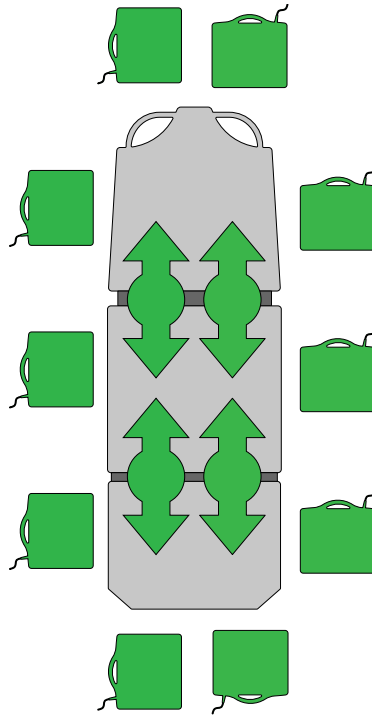

Figure 30 – Inserting or removing X-ray cassettes on Prime X option
1. Center the patient on the product with the position indicator labels located on all sides of the product (Figure 30).